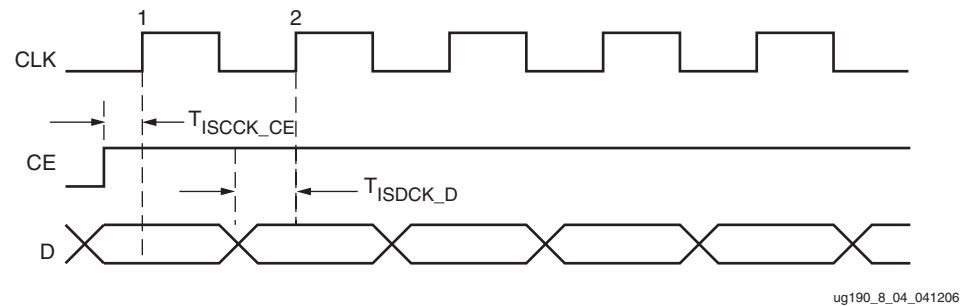
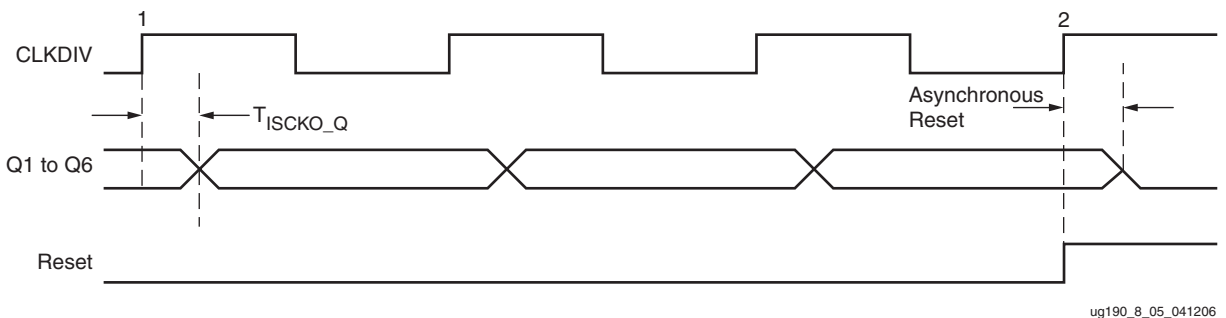

Figure 8-4: ISERDES Input Data Timing Diagram
Figure 8-5: ISERDES Output Data Timing Diagram
In the timing diagrams of Figure 8-4 and Figure 8-5, the timing parameter names change for different modes (SDR/DDR). However, the names do not change when a different bus input width, including when two ISERDES are cascaded together to form 10 bits. In DDR mode, the data input (D) switches at every CLK edge (rising and falling).
Figure 8-4 illustrates an ISERDES timing diagram for the input data to the ISERDES.
Figure 8-5 illustrates an ISERDES timing diagram for the output data from the ISERDES.